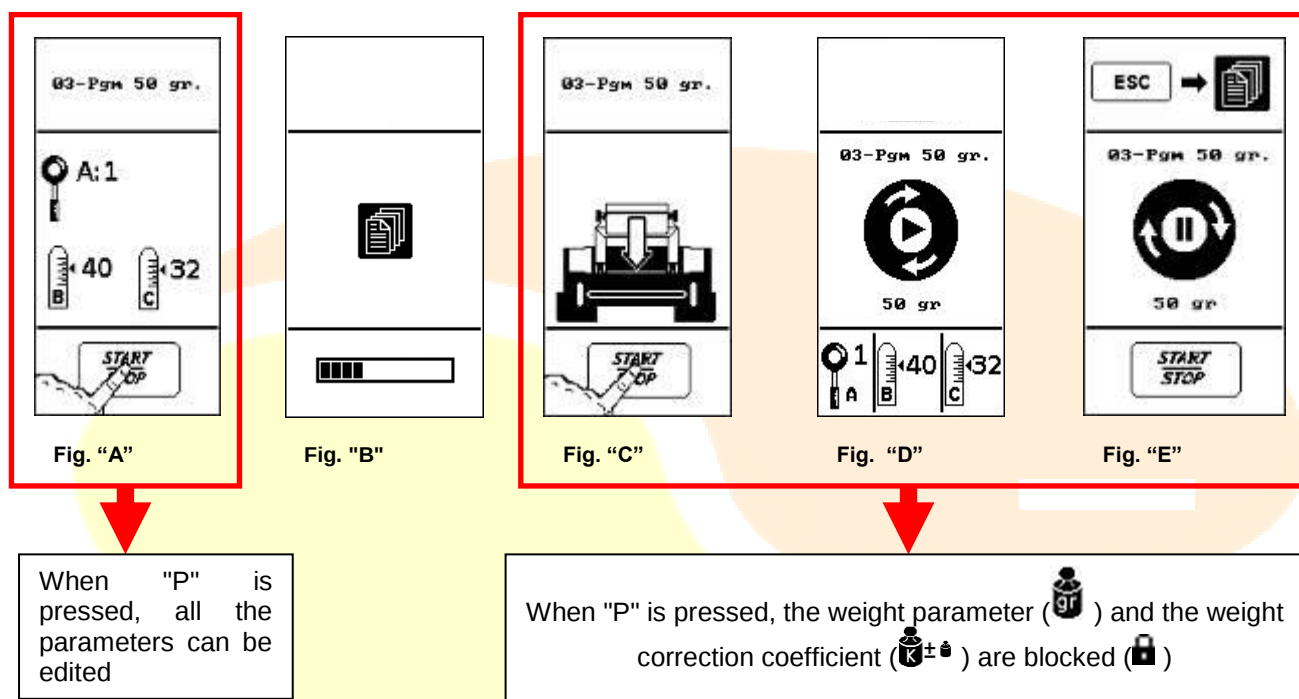

Figure 29 - Creating a new work recipe
After selecting the recipe (or program) without loading (or starting) the program itself, the display will show Figure 29 ref. "A": only in this context is it possible to select each parameter of the recipe and edit it, even those
If the "START / STOP" 2.4 button ref. 8 is pressed, the display will show Figure 29 ref. "B" (while loading the recipe) at the end of which ref. "C" will be shown, followed by "D" and "E" (during work or when processing stops): in this last situation it will NOT be possible to edit some of the available parameters, as indicated in par. 3.8.2.
- Use "I-DRIVE" to select the "B" and "C" parameter to set the size of the desired product which will be obtained by manually adjusting the loaf moulder. These two parameters do not change the execution of the process, but will only show the value on the display when the recipe is loaded, as indicated in Figure 29 ref. "A" and "D", so that the operator can properly adjust the loaf moulder as illustrated in par. 3.7.5.